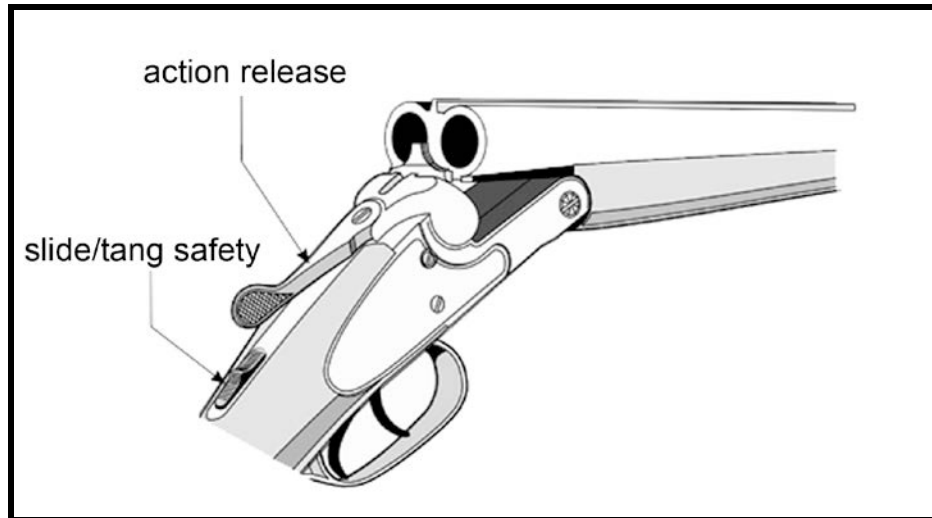

Figure 41. Side/tang safety
- c. Common types of safeties on non-restricted firearms are the slide/tang, pivot/lever/rocker, wing, trigger block/lever, and cross-bolt or button safety (Figures 41 to 44). In addition, some lever action firearms and muzzleloaders use a half-cock safety.
This safety is common on shotguns and rifles (Figure 41). It is usually on the right side of the receiver on rifles, and the top of the receiver on shotguns. It blocks the firing mechanism. Some modern lever actions also have slide- or button-type safeties located in the action area.